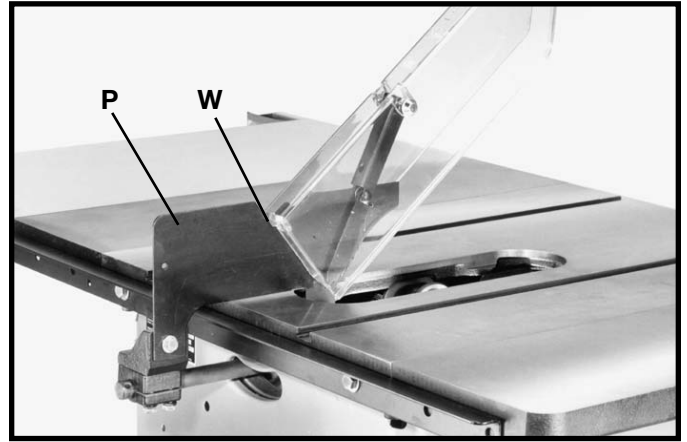

Fig. 33
10. **IMPORTANT:** The splitter (P) Fig. 33, features a notch (W) cut into the top edge. Simply raise the front of the clear blade guard (P) Fig. 33, until the rear edge of the guard slips into notch (W) of the splitter. This notch enables the blade guard to stay in the raised position and makes changing blades easier.